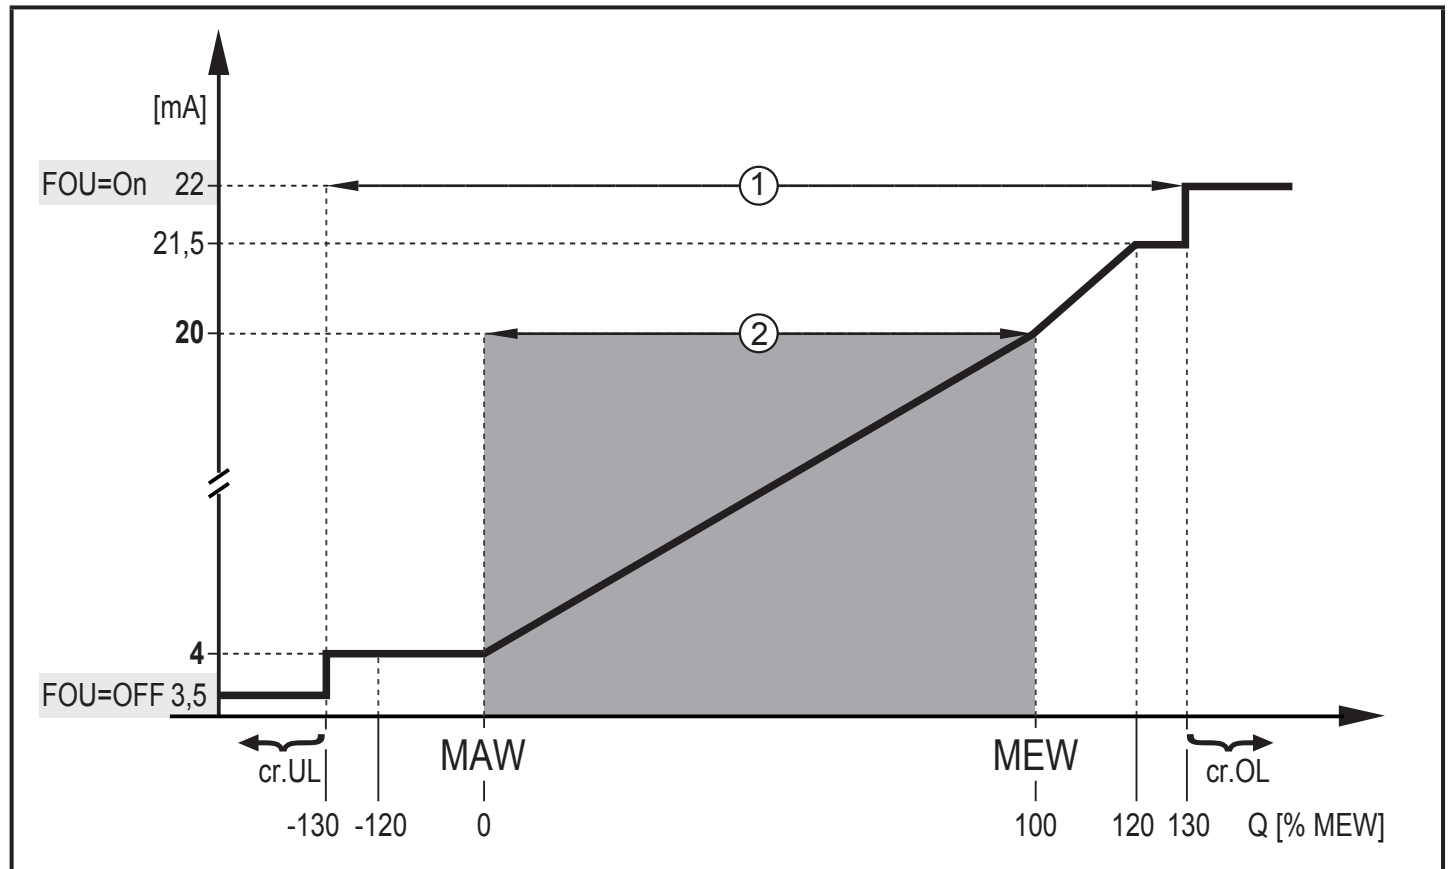

Figure 1: Characteristics of the analogue output according to the standard IEC 60947-5-7.
- If the measured value is outside the measuring range or in the event of an internal error, the current signals indicated in Figure 1 are provided.